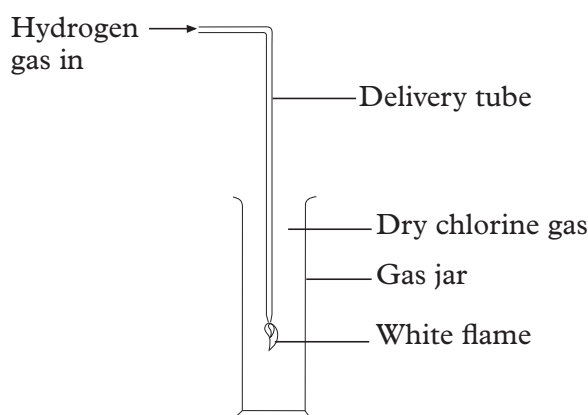

Fig. 4.7: Experimental set up for the reaction between chlorine and hydrogen
2. a) Introduce burning hydrogen from a generator into a gas jar of dry chlorine gas as shown in fig 4.7.